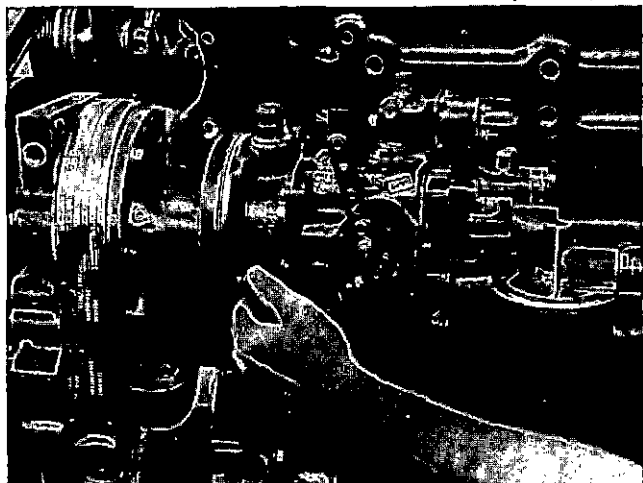

Fig. 14-65 (N114278). Install The Fuel Pump.
2. Install the fuel pump and new gasket to the air compressor or accessory drive. Tighten the capscrews to 30 to 35 ft.-lbs. [41 to 47 N•m] torque, Fig. 14-65.